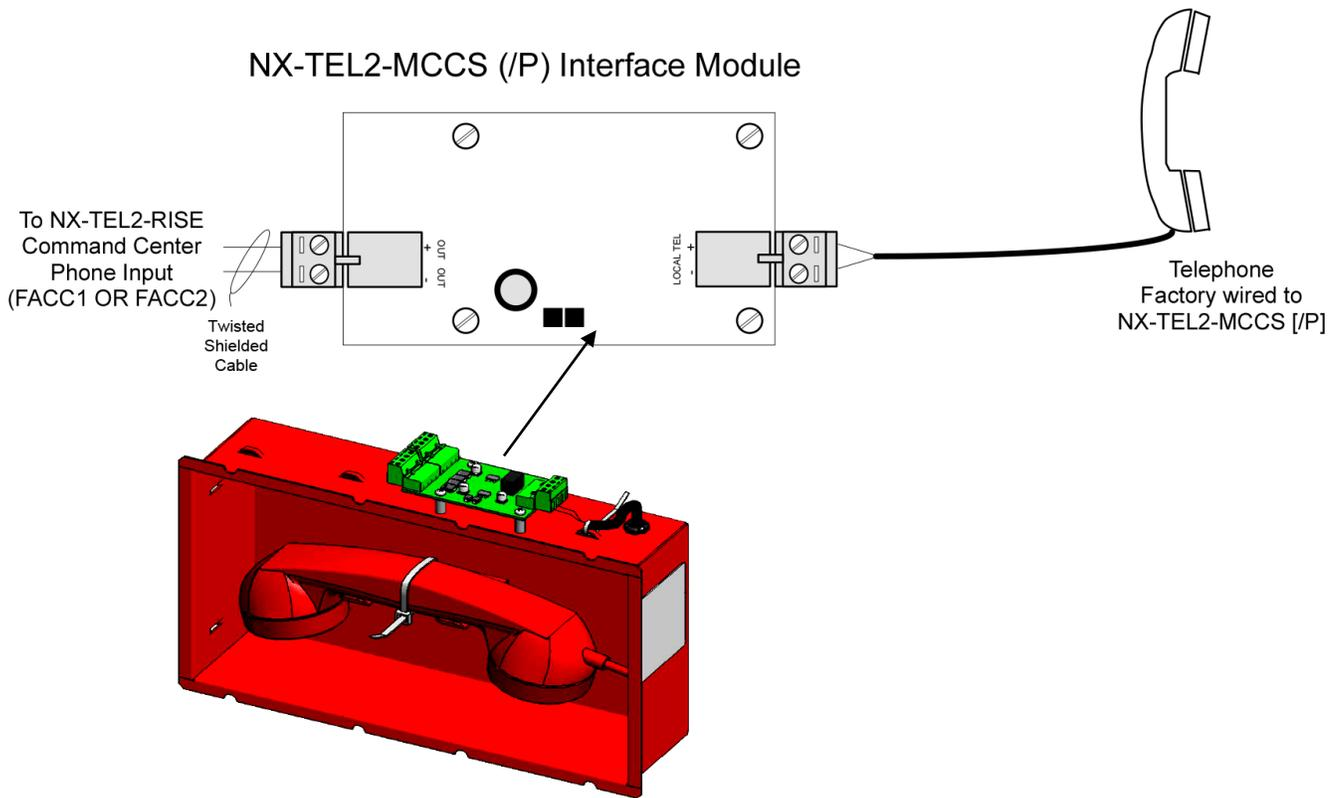

Figure 56 – NX-TEL2-MCCS (/P) Interface Module Wiring
The NX-TEL-MCCS and NX-TEL2-MCCS/P include an interface module for connection to an SHIELD NX-TEL2-RISE firefighter phone system2 telephone riser module (see figure 56).
Utilizing twisted shielded cable wire the NX-TEL2-MCCS (/P) interface module to the NX-TEL2-RISE module (see figure 56).
Remove power (AC and DC) from the system. Unplug the pluggable terminal blocks of the NX-TEL2-MCCS (/P) interface module. Remove the four (4) screws holding the NX-TEL2-MCCS interface module to its mounting location (see figure 56). Place the new NX-TEL2-MCCS interface module on to the standoffs and secure with the removed four (4) screws. Replace the removed pluggable terminal blocks to their proper locations and reconnect AC and DC power.